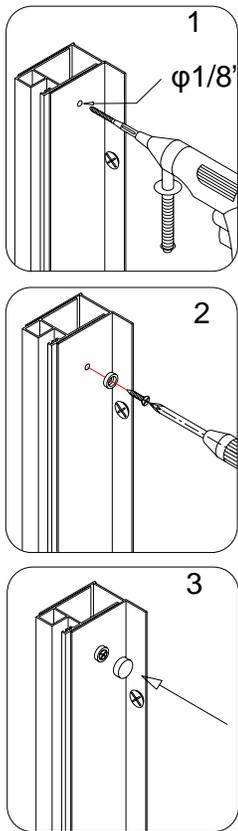

Fig 7
8. Perform the final check and adjustment of the shower assembled position on the tray. Now drill small holes in the Wall and Glass profiles and connect them together using **ST4.2x10 round head screws (12)**. (Do not use a power screwdriver) See fig. 7 for details.